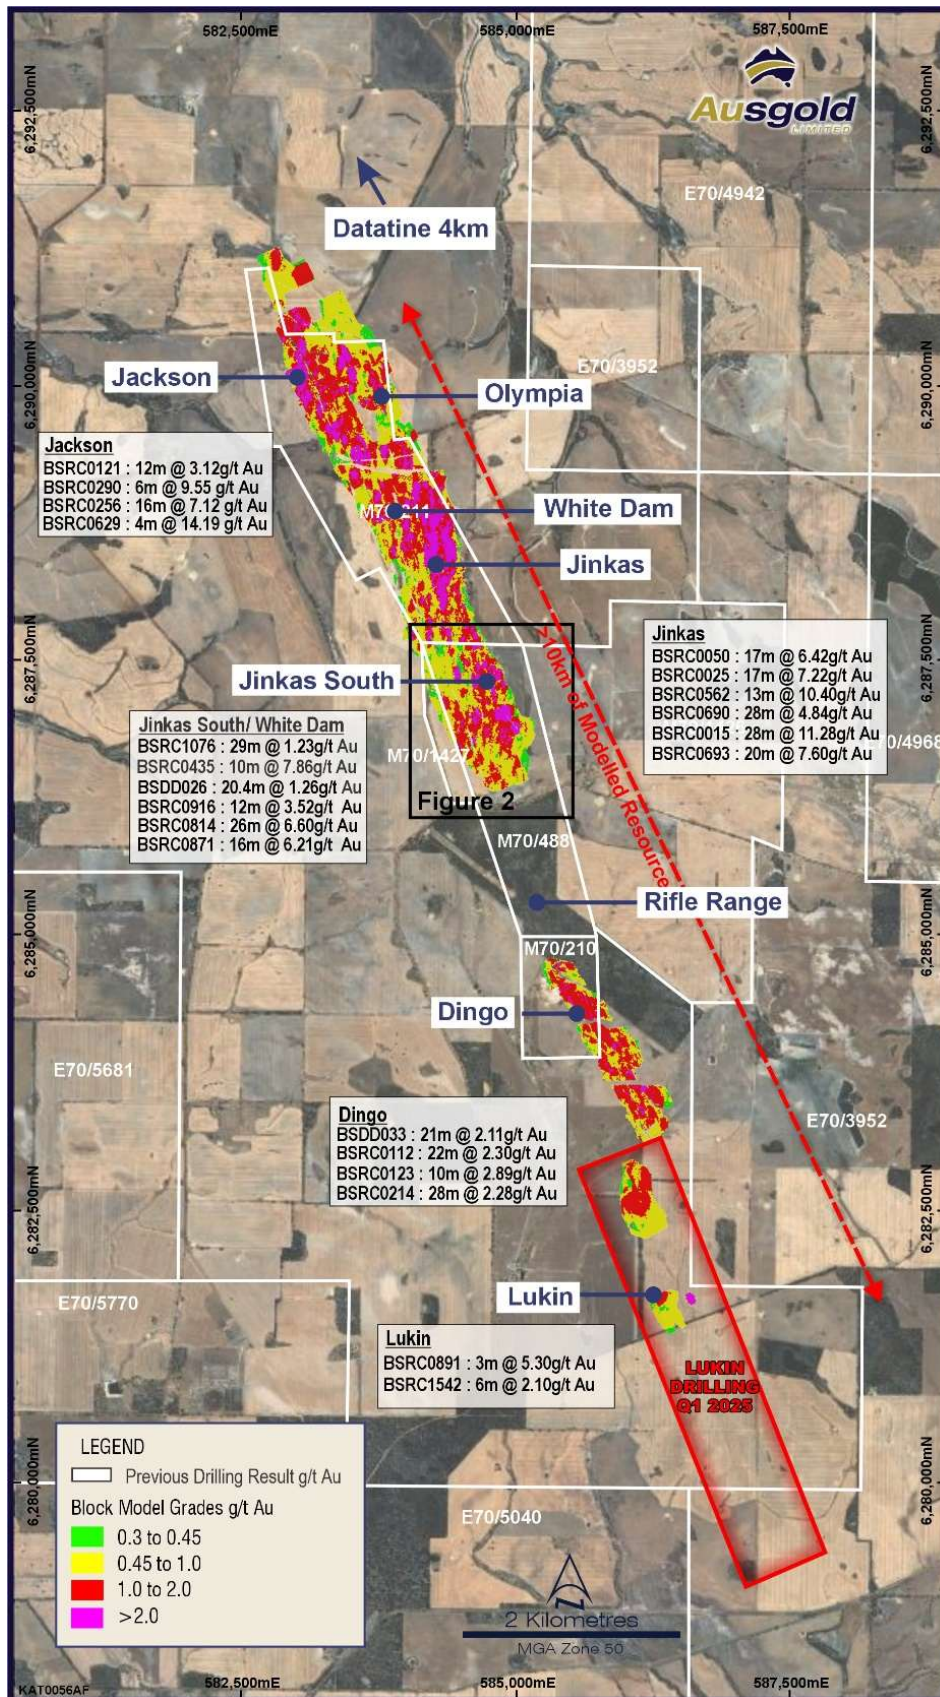

Figure 1 – KGP Resource1 with a selection of drilling results
The KGP lies within a major mineralised structural corridor, with exploration to date outlining a 17km trend hosting multi-lode gold mineralisation across three key zones – the Northern, Central and Southern Zones (Figure 1).
The initial phase of the drilling program commenced in the southern portion of the Central Zone (Figures 1 & 2), comprising two programs:
- During Q1 2025, RC drilling will commence at Lukin over a 4.5km strike, in the Southern Zone of the KGP (Figure 1) with the aim of extending the current resource southward. The initial phase of drilling will comprise 2,000m.